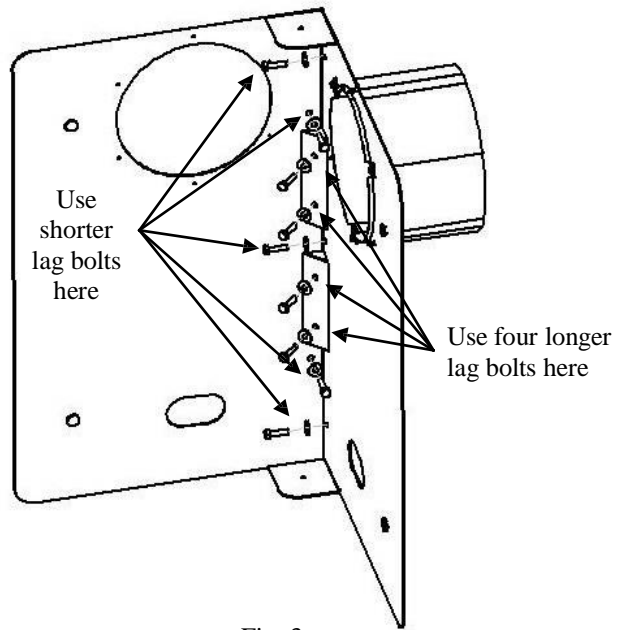

Fig. 3
**STEP 3:** Attach the wall plate to the wall with the pass through heat-shields in place, and fasten to the wall using the 9 lag bolts provided. See Fig. 3.